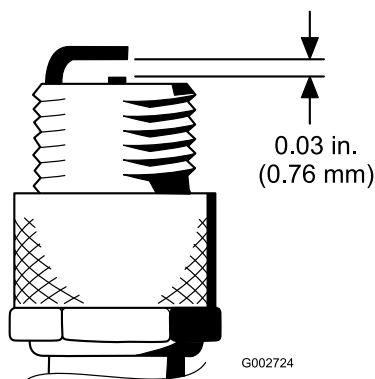

Figure 52
4. Set the air gap between the center and side of the electrodes at 0.030 in. (0.76 mm) (Figure 52).